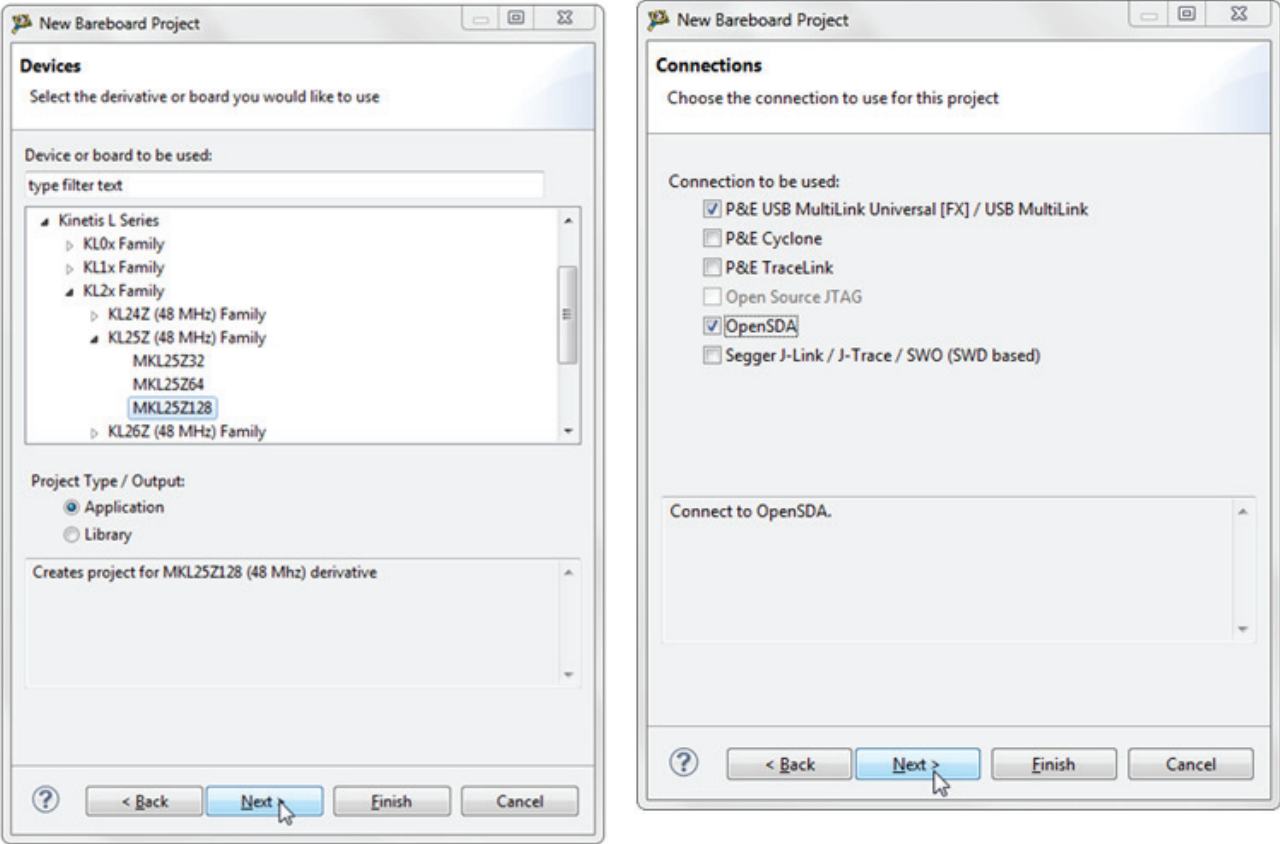

Figure 10. Select the MCU Class and Connections
2. Choose the MCU class to be used in the freedom MCU board (MKL25Z128 in this example). Then select the connections to be used (see Figure 10).